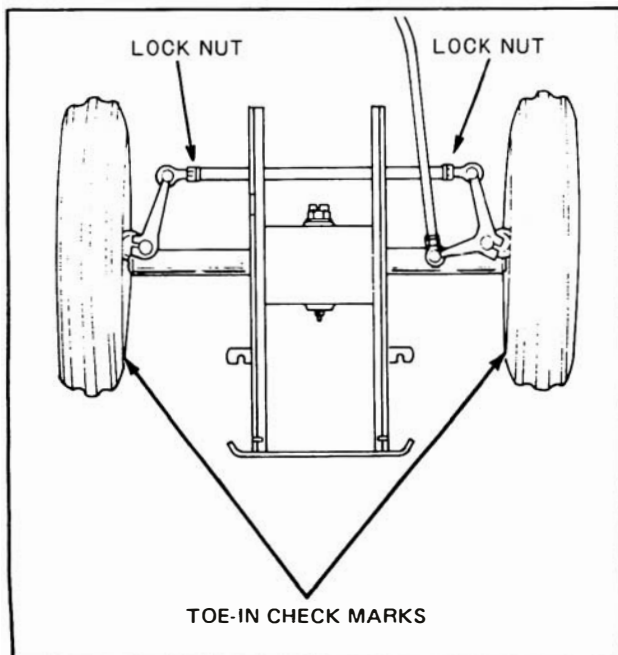

Figure 47 — Checking Toe-In
1. With the front wheels in the straight-ahead position, mark the front of the wheels (not the tires) at wheel hub height (Figure 47). Determine the straight-ahead position by turning the steering wheel from lock to lock and then halfway back.